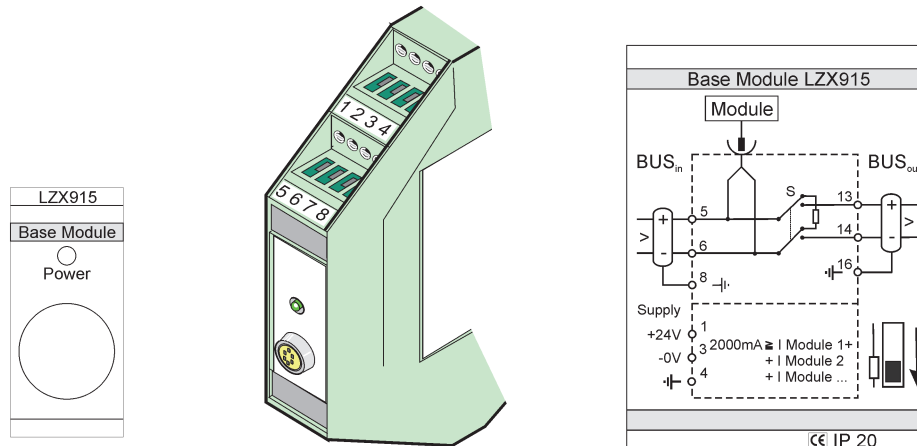

Figure 76 External base module
4. Make the connections as shown in Figure 76 and Table 49.